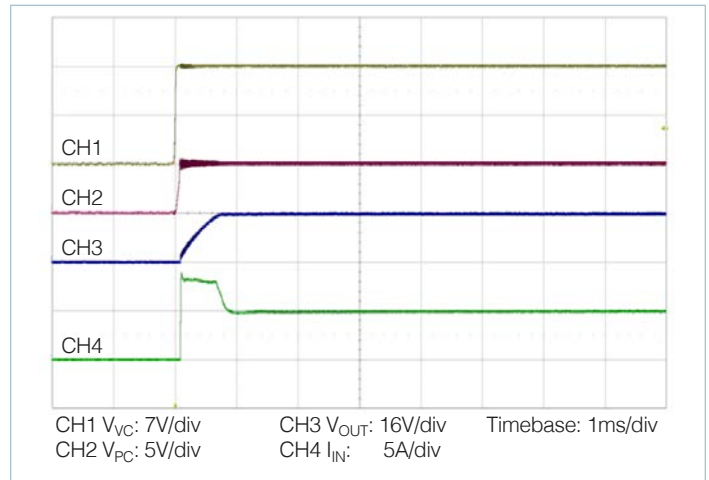

Figure 14 — Start up from application of V_C ; V_{IN} pre-applied $C_{OUT} = 800\mu\text{F}$
- **Stand-alone operation (VC applied after V_{IN}):** In this case the VTM output will begin to rise upon the application of the VC voltage (See Figure 14). The Adaptive Soft-Start Circuit may vary the output rate of rise in order to limit the inrush current to its maximum level. When starting into high capacitance or a short, the output current will be limited for a maximum of 1200 μ s. After this period, the Adaptive Soft-Start Circuit will time out and the VTM module may shut down. No restart will be attempted until VC is re-applied or PC is toggled. The maximum output capacitance is limited to 800 μ F in this mode of operation to ensure a successful start.